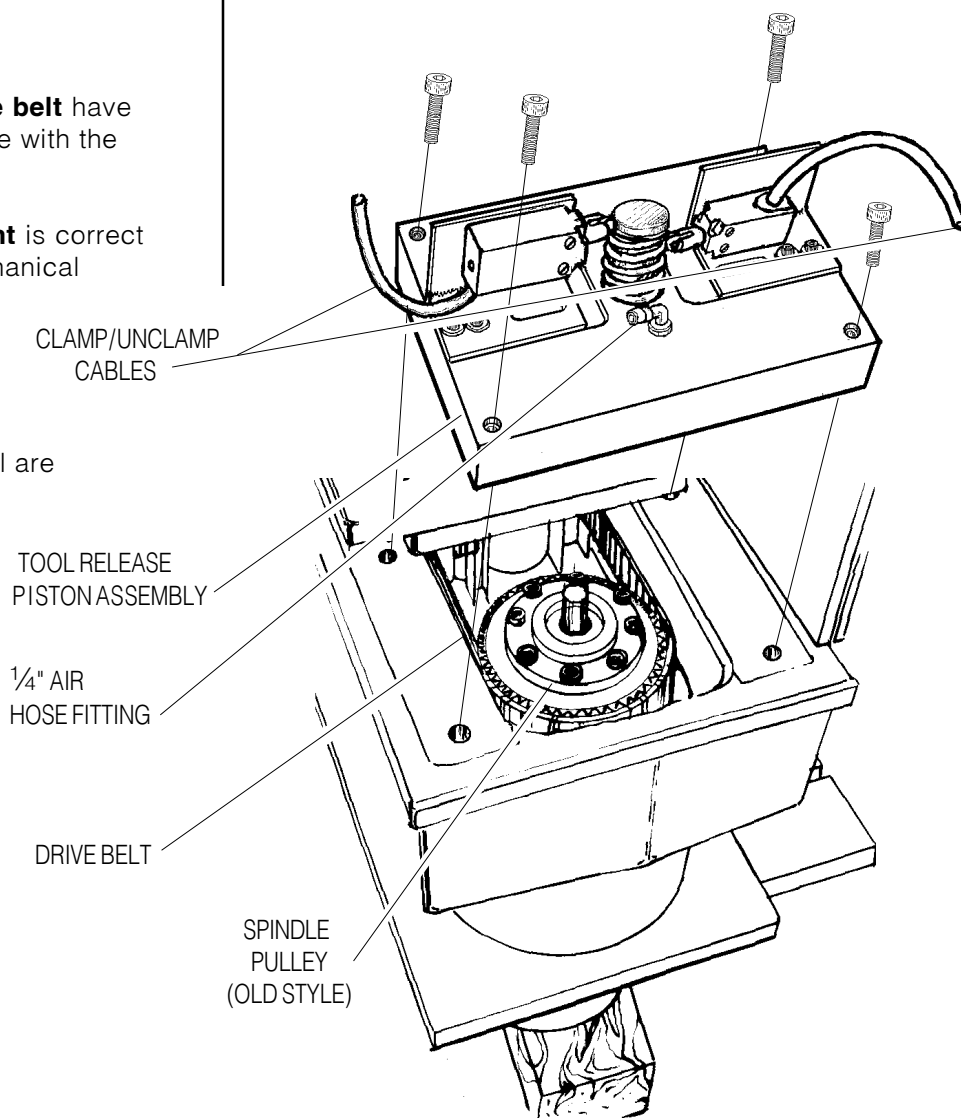

Fig. 2-2 Mounting location for tool release piston assembly.
5. Remove the tool-release air hose at the fitting noted (See Figs. 2-2 and 2-3).
4. Reconnect the **air hose** at the applicable fitting (Fig. 2-2 or 2-3) on the tool release piston assembly.